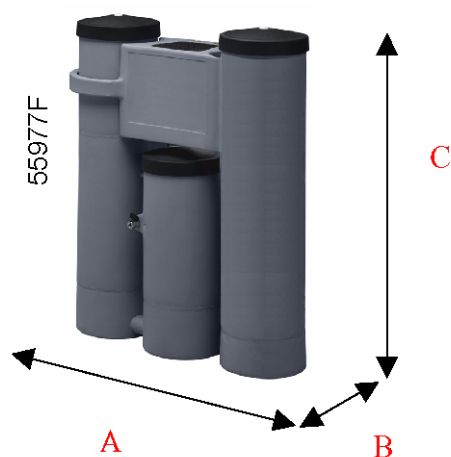

Fig. 1.4 Dimension drawing
4.1 Dimension drawing (Fig 1.4)